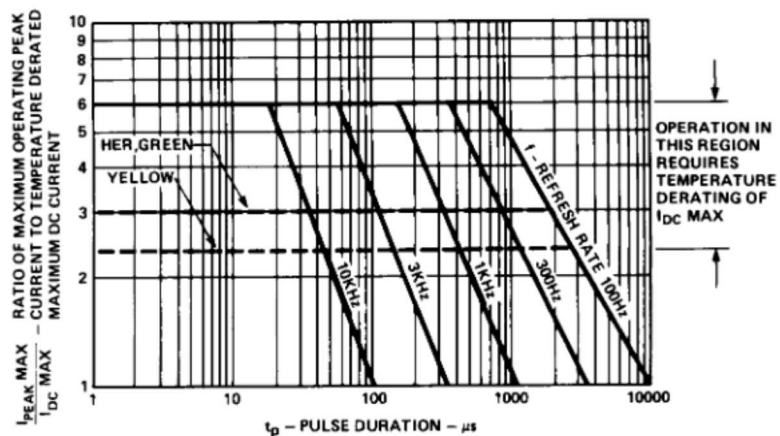

Figure 6. Maximum Allowed Peak Current vs. Pulse Duration.
- See Figure 6 to establish pulsed operation. Maximum pulse width is 2 mS.